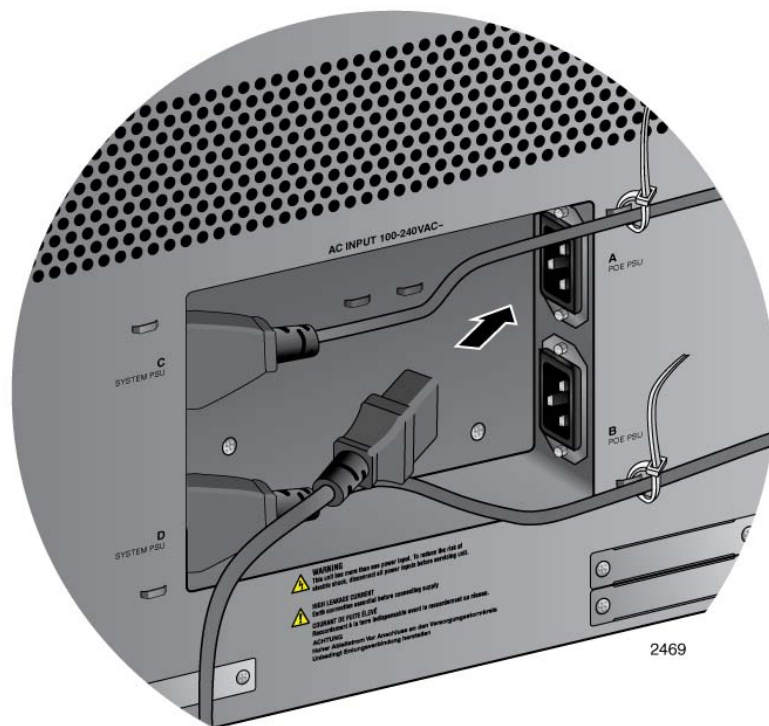

Figure 116. Connecting the AC Power Cord for the AT-SBxPWRPOE1 Power Supply
2. Plug the AC power cord that comes with the power supply into one of the plugs, as shown in Figure 116.